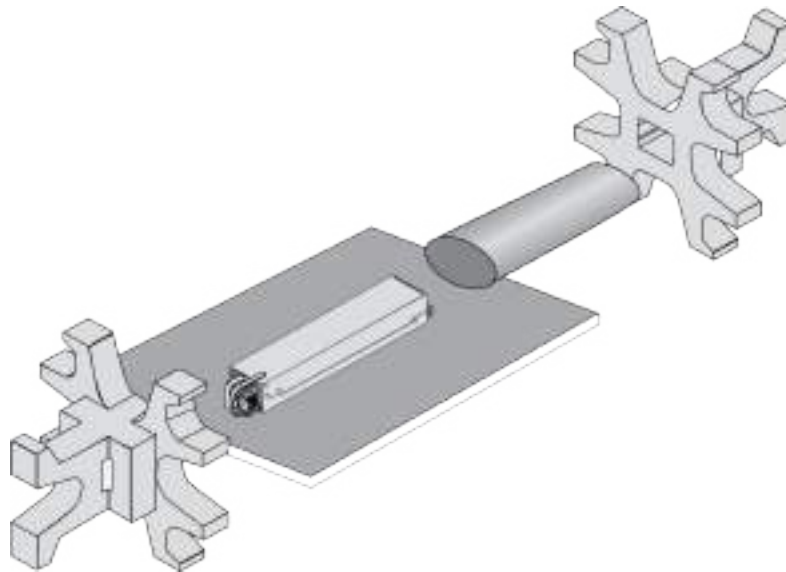

Figure 36. Removing the Power Supply from the Shipping End-caps and Protective Bag
4. Remove the power supply from the shipping end-caps and protective shipping bag. Refer to Figure 36.